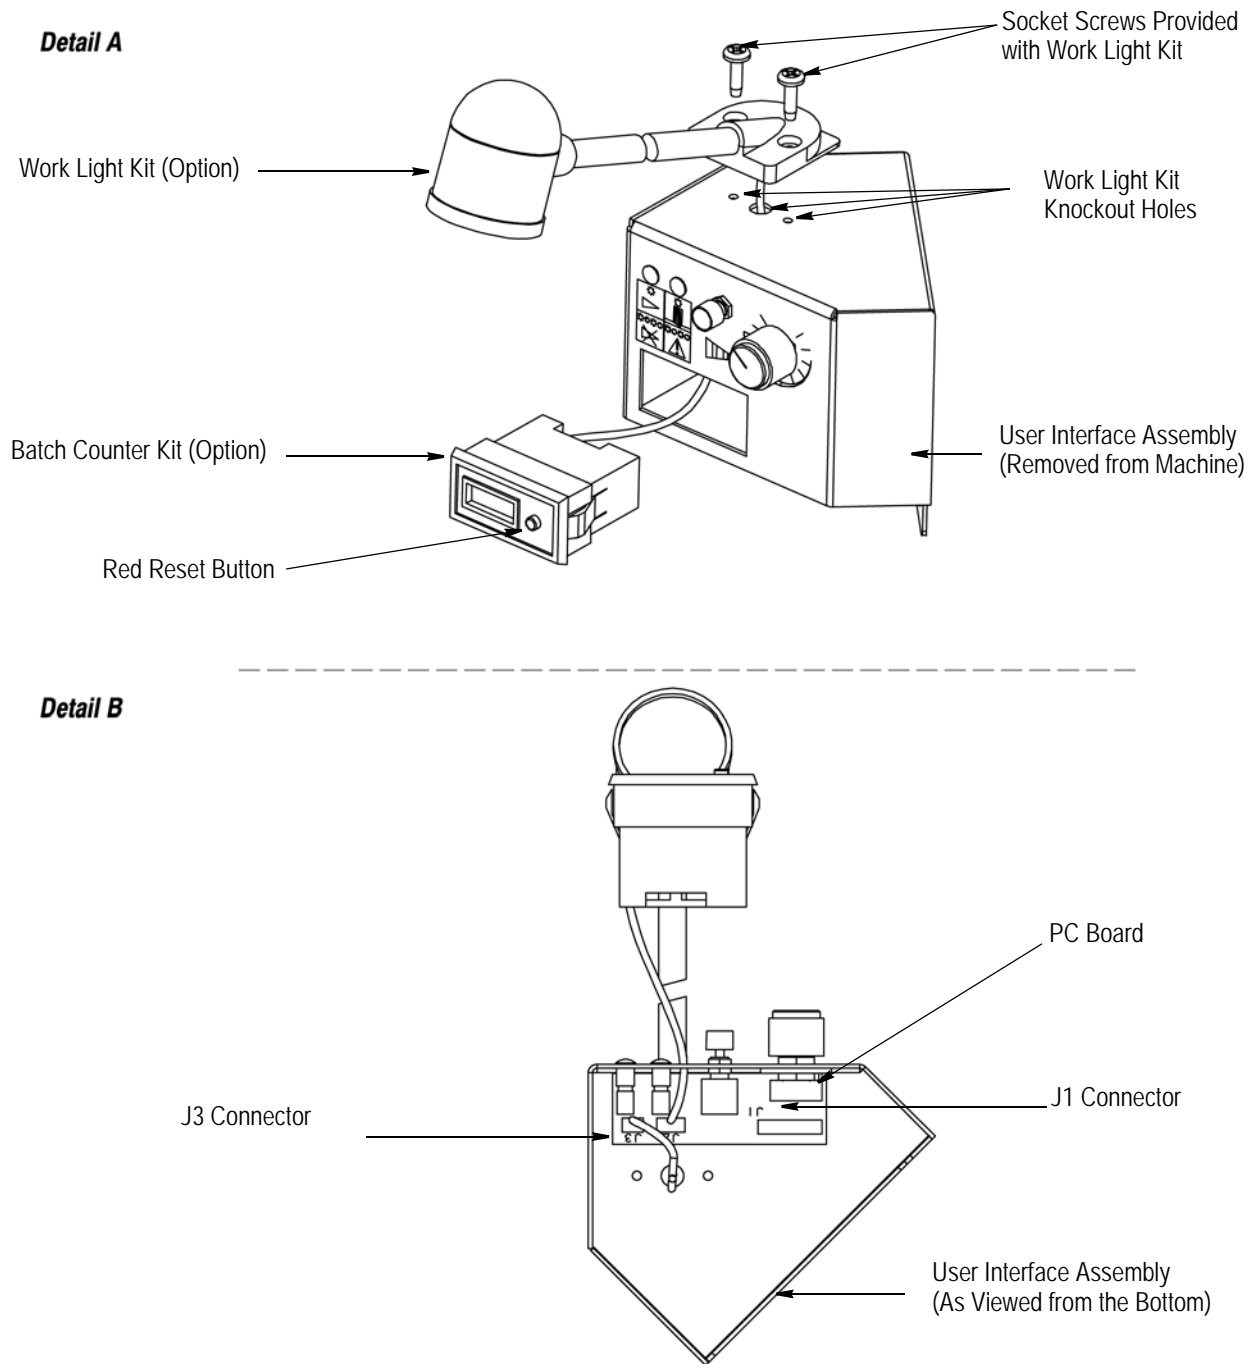

Figure 15
5. Remove the three work light kit knockout holes (Figure 15, Detail A) from the top of the user interface assembly.
7. Plug the lighting kit connector into the J3 connector on the pc board inside the user interface assembly. See Figure 15, Detail B.
8. Attach the light (as shown in Figure 15, Detail A) to the top of the user interface enclosure using the socket screws provided.